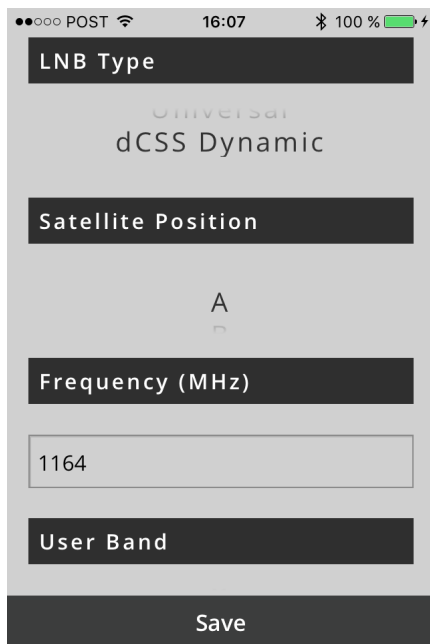

Figure 11 LNB Configuration
For Unicable and dCSS types, the desired Intermediate Frequency (IF) must be typed in by keyboard. See Figure 11 LNB Configuration.